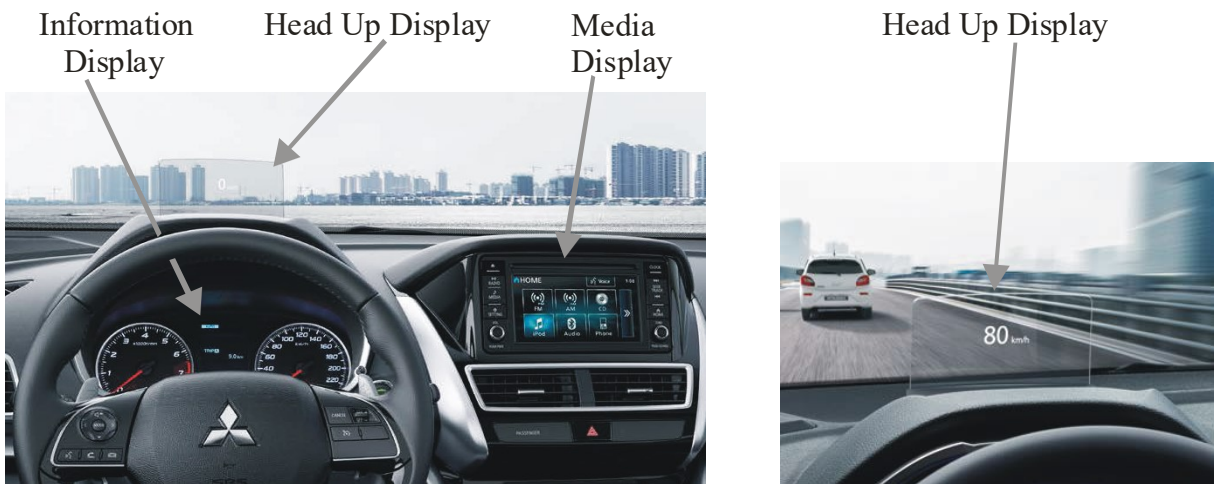

Fig. 5.4. Displays used in Mitsubishi Eclipse Cross. Adapted from [2.57].
In car exists two displays: 1) main information display (ID) and 2) media display (MD). The MD information can be projected on screen and system is named Head-up-Display (HUD). Some displays of the vehicle are presented in Fig. 5.4.